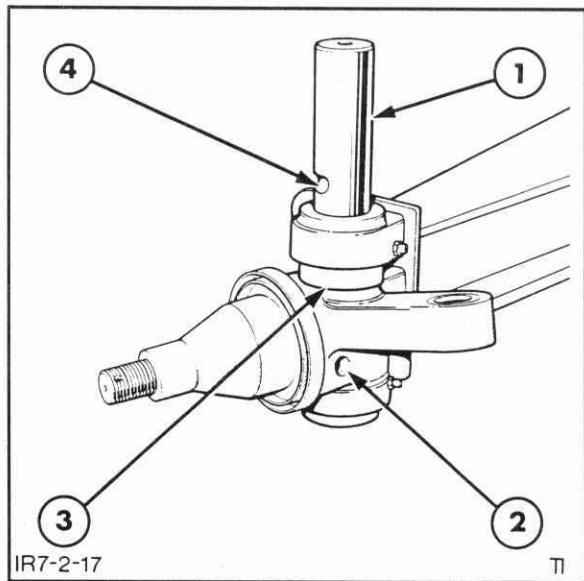

Figure 7-58
5. Install the spindle pin ensuring that the notch in the pin aligns with the locking pin bore in the spindle, Figure 7-58.